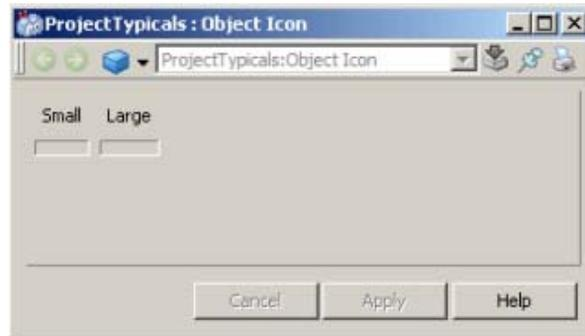

Figure 399. Selecting an Icon
3. Double click on Small or Large icon box as shown in Figure 399.